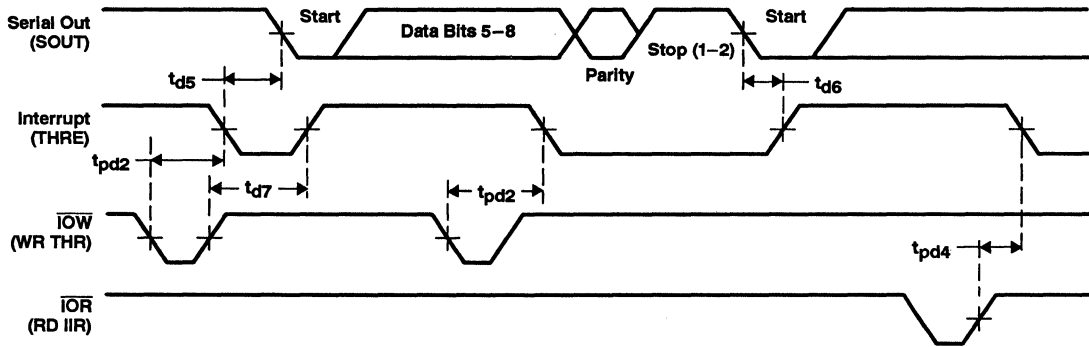

Figure 8. Transmitter Timing Waveforms
**transmitter switching characteristics over recommended ranges of operating free-air temperature and supply voltage (see Figures 8, 9, and 10)**